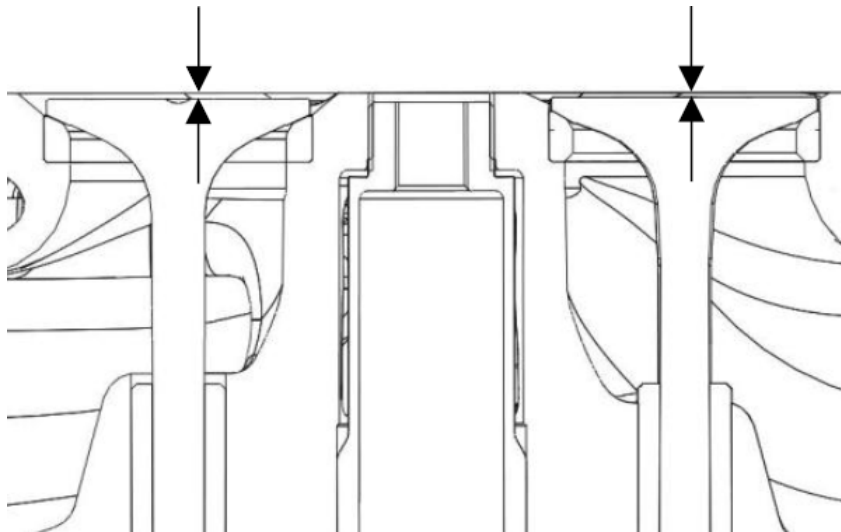

Figure 63. Valve Recession Check
5. Insert the valves into their original locations and press them down until they are fully seated. Use a depth micrometer (Figure 63) to measure the difference between the cylinder head gasket surface and the combustion surface of each exhaust and intake valve. See Cylinder Head specification chart for the service limit.